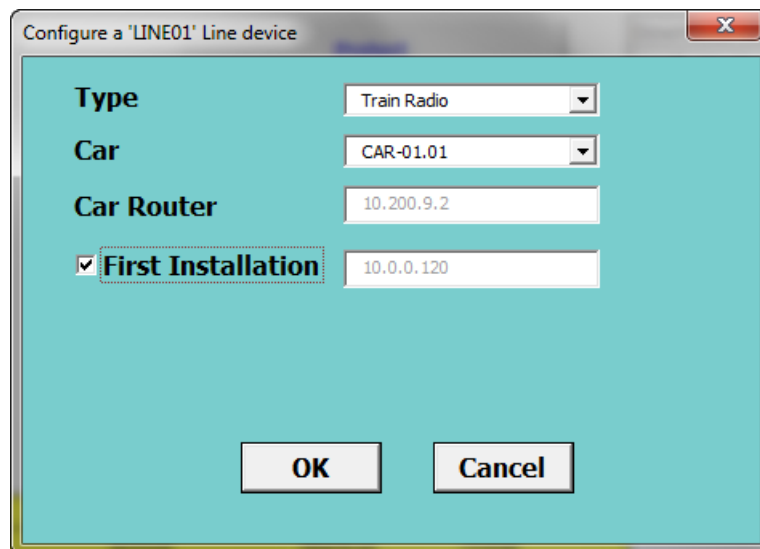

Figure 4-17: TMU - First time Installation
6. **Type:** Select the radio type - Train Radio, as shown in Figure 4-17.